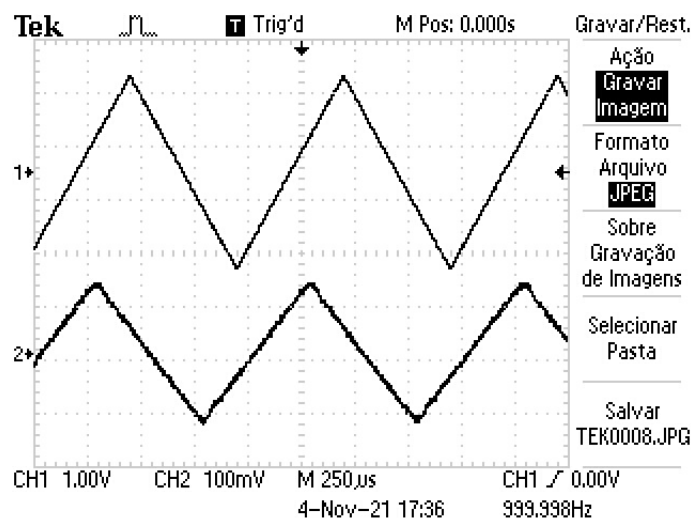

Figure 6: Oscilloscope view of the function generator triangular wave and analog output of the STM32F746G.
**Question 7 [ 2pt / 10 ]:** repeat the previous experiment (question 6) with a triangular wave (make sure its duty cycle is 50%). You should obtain a figure similar to that represented in Figure 6. Now, increase the frequency of the triangular wave, in steps of 1 kHz, until the STM32F746G output wave looks like a perfect sinusoid. Is the frequency after which the output wave looks like a sinusoid the same, lower, or higher than that that you observed in Question 6 ? How do you explain that ?